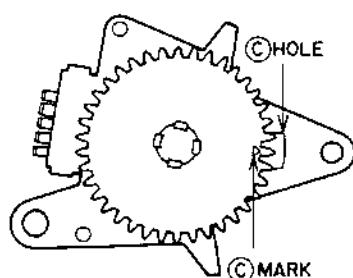

Fig. 4-16
- 1) Set the MODE SELECT SWITCH's gear so that the © mark is in the center of the © hole as shown in Fig.4-16.